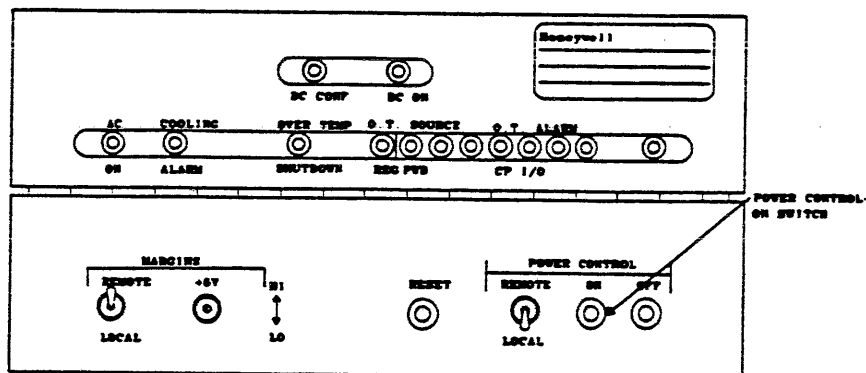

FIGURE 4-10. POWER CONTROL MODULE AT VC1 (POWER-ON SWITCH)
- Depress the POWER CONTROL-ON switch. This switch is located on the Power Control Module at VC1. See Figure 4-10.